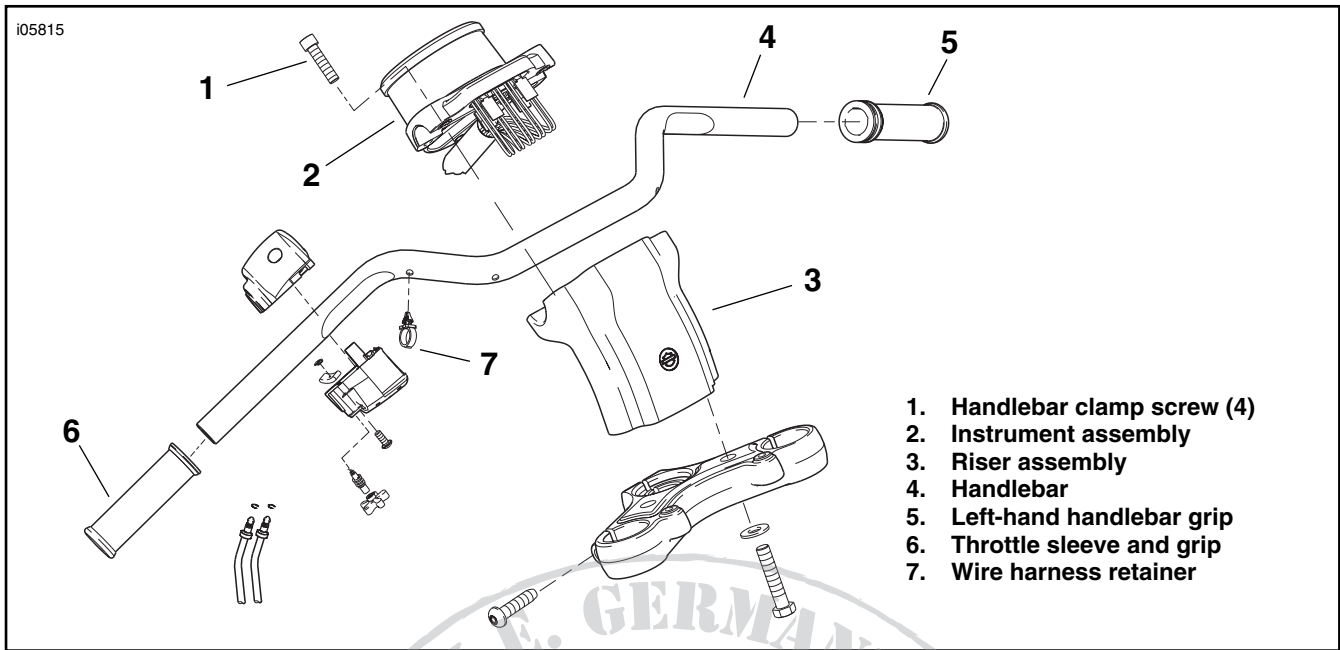

Figure 9. Handlebar Clamp and Risers
26. See Figure 9. Remove the screws (1) that fasten the instrument assembly (2) to the riser assembly (3). Remove and retain the wire harness retainers (7) from the handlebar. Remove the handlebar (4) from the motorcycle.